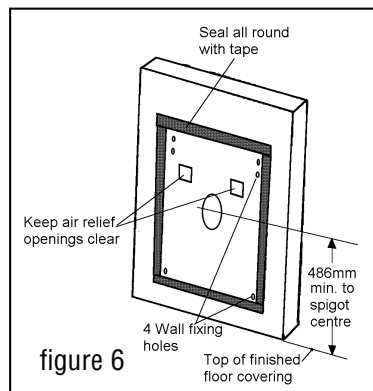

figure 6
3.4.3 Wall mounting (Figure 6)